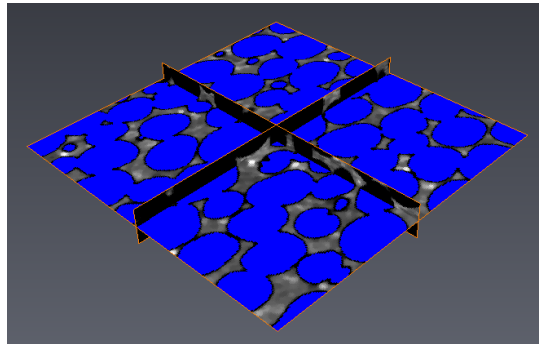

Figure 6.4: *Interactive Thresholding* 2D preview
- Check and uncheck the *3D* option in the *Preview Type* port to get a 2D only or 3D preview (see Figure 6.4).